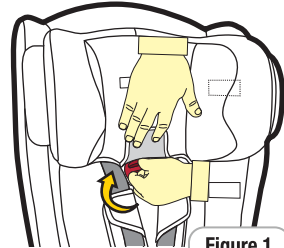

Figure 1
**Step 2:** To adjust the headrest, lift the "TrueFit" flap on the headrest cover. Turn the red "TrueFit" knob clockwise to unlock the headrest (refer Figure 1).